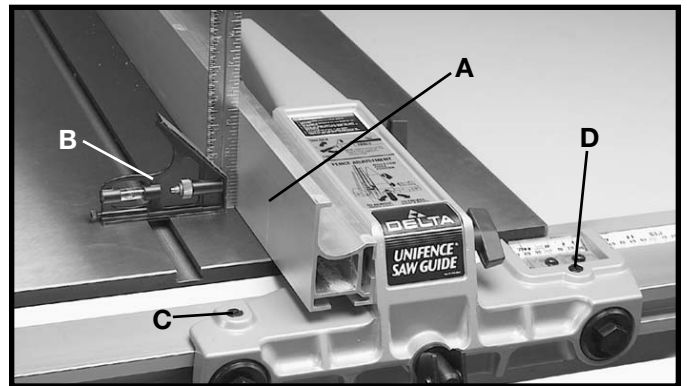

Fig. 51
The fence must be adjusted so that the face of fence (A) Fig. 51, is 90 degrees to the table. To check if the fence is 90 degrees to the table, place a square (B) on the table with one end of the square against the fence, as shown. If an adjustment is necessary, tighten or loosen one of two screws (C) or (D) until the fence is 90 degrees to the table.
**IMPORTANT: VERY LITTLE MOVEMENT OF THESE SCREWS (C) AND (D) IS NECESSARY TO MAKE THIS ADJUSTMENT.**